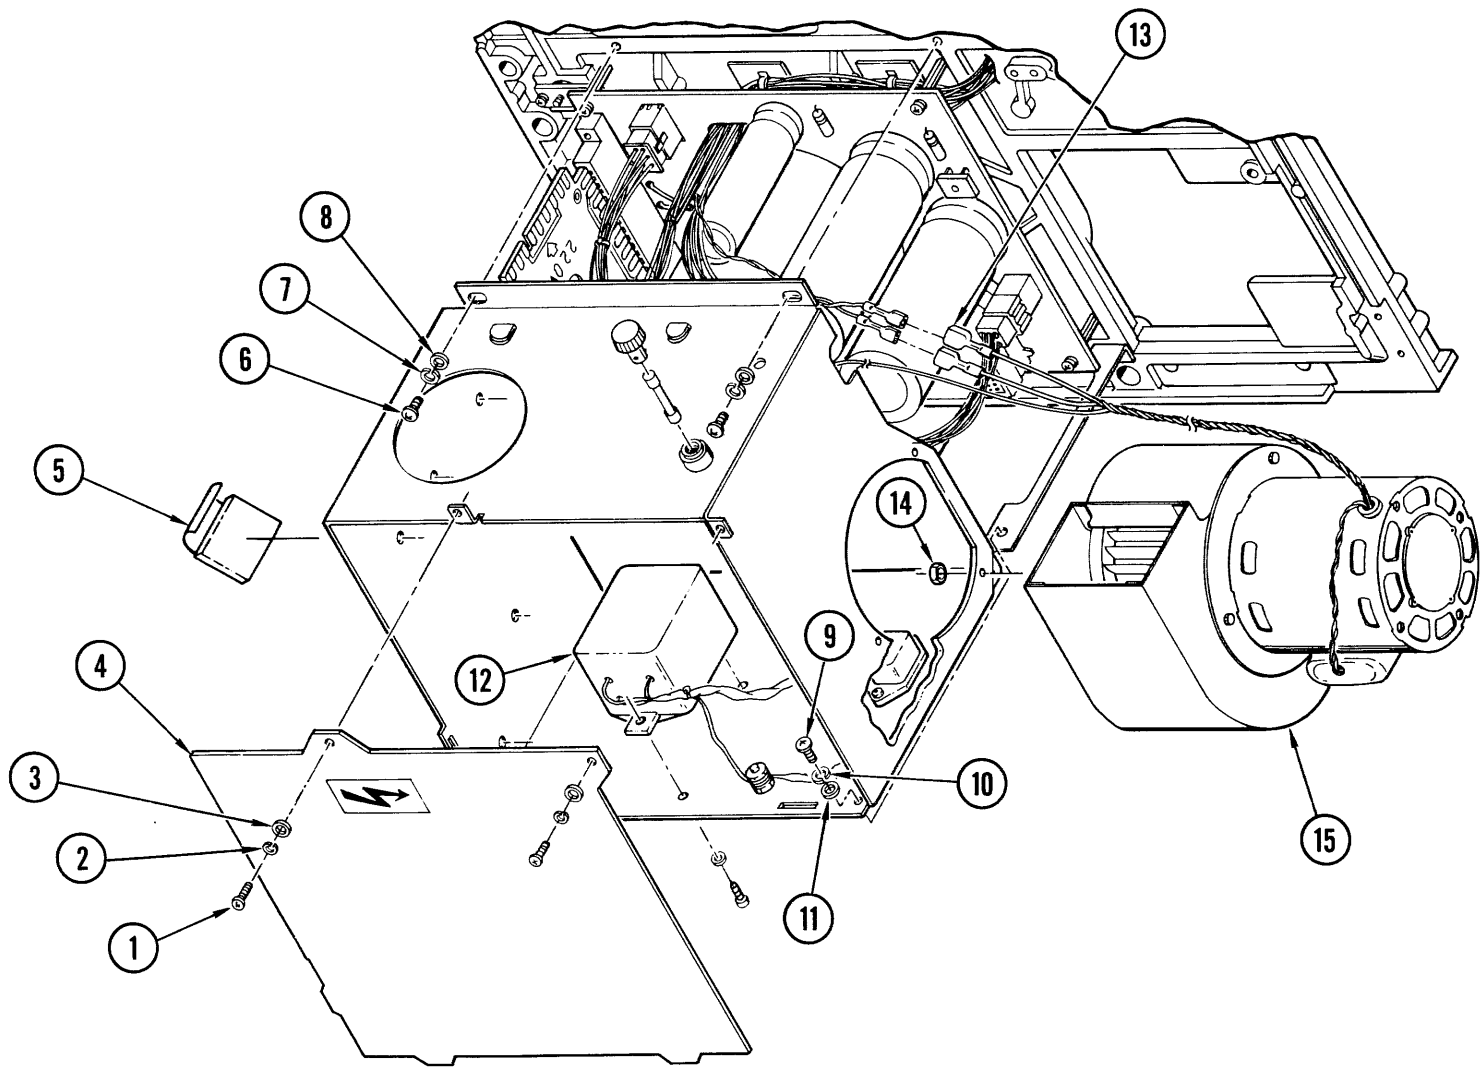

Figure 4-24. Power Supply Assembly
4-38. **Removal and Replacement (Figure 4-24).** Place the drive in service access position in accordance with instructions in paragraph 4-3 and proceed as follows:
- c. Remove screws (1, Figure 4-24), lockwashers (2), and flatwashers (3) securing power supply cover (4).
- d. Remove wiring harness from clip cord (5) securing wiring harness to outside of power supply chassis, and disconnect wiring harness connector from power supply PWB.
- e. Remove screws (6), lockwashers (7), and flatwashers (8) securing power supply chassis to top plate.
- f. Remove screws (9), lockwashers (10), and flatwashers (11) securing chassis to rear bracket.
- g. Disconnect air pump wires (13) and terminals from EMI filter (12) noting position from which removed.
- h. If air pump assembly (15) is to be replaced, remove nuts (14) securing air pump to chassis.